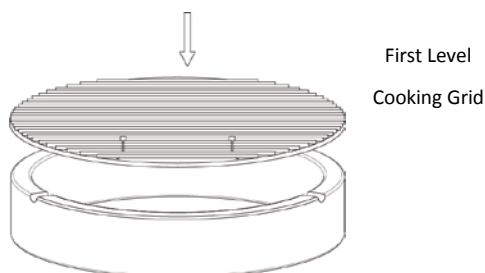

Figure 5
STEP 7 Place the 304 Stainless Steel first level cooking grid on top of the fire ring with the hinged accessing door in the front of the grill. (See Figure 5)